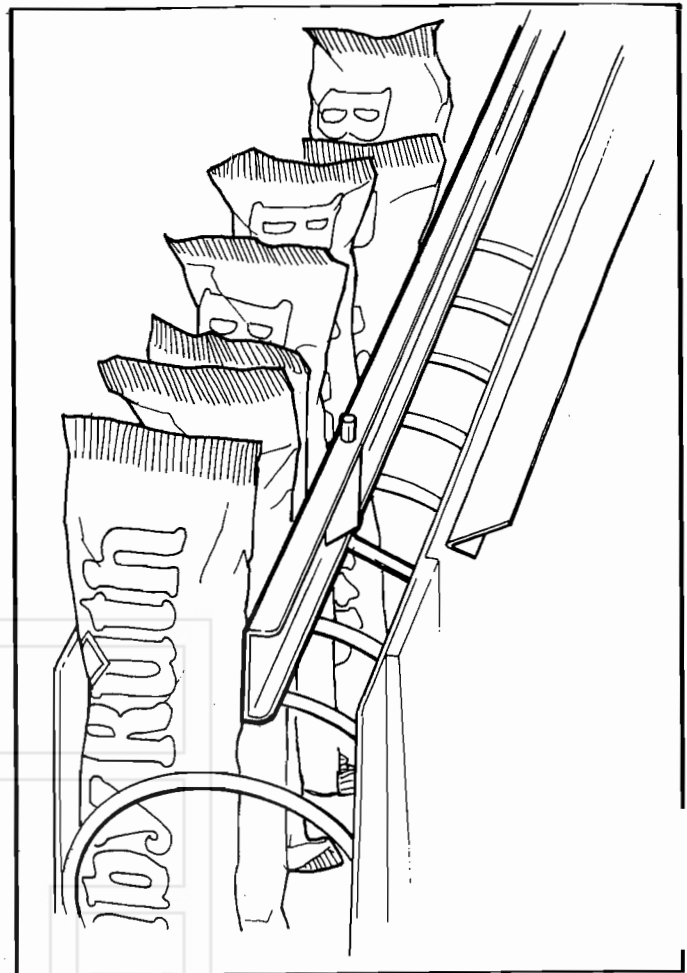

Figure 6. 8 SELECTION SHELF PRODUCT SPACER POSITIONED TO HOLD CANDY UPRIGHT.
7. **PRODUCT SPACERS-8 SELECTION SHELF:** The 8-Selection shelves are equipped with a product spacer (see Figure 6) that can be pivoted from the right side of